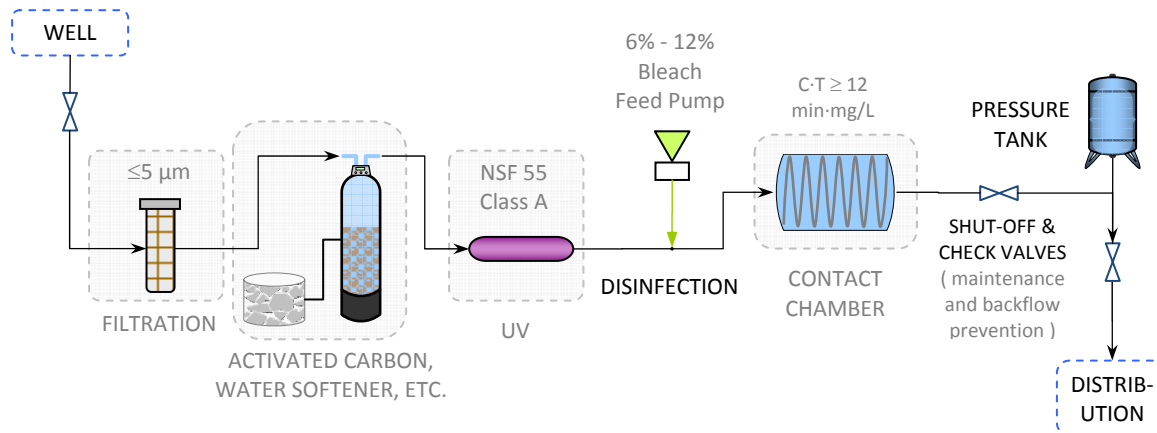

Figure 2. (EXAMPLE ONLY) Typical Small Water System Ground Water Treatment Train
A "typical" treatment train conforming to steps 4 (Filtration), 5 (UV), 6 (Chlorination), and 7 (Chemical Conditioning) is presented in **Figure 2** below. This is a robust approach that works in many instances, but, the actual treatment train should always be tailored to the specifics of the source water chemistry. The specific **sequence** of treatment units depends on the water chemistry, and needs to be carefully considered by the water treatment system designer.